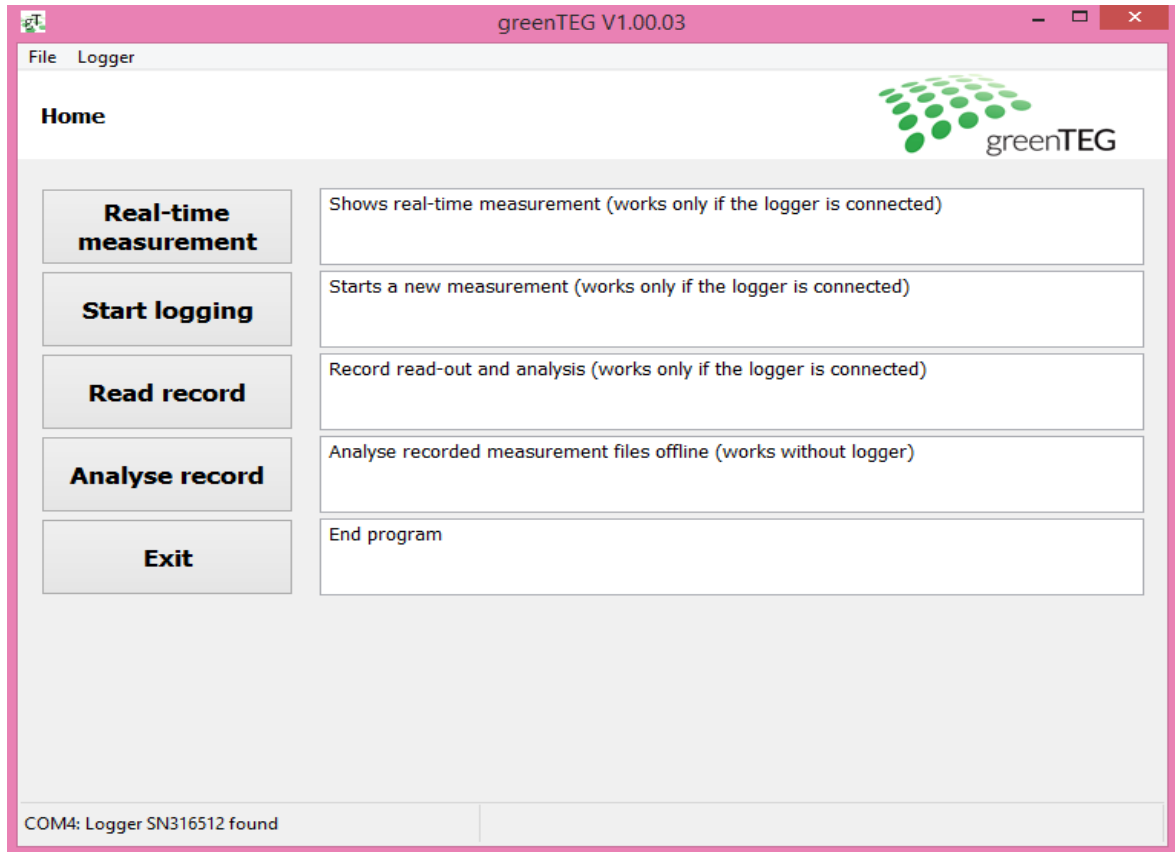

Figure 2: Home screen view with data logger connected to your laptop.
The gSKIN® U-value software is built upon a home screen with 7 functional buttons (See Figure 2): **5 buttons** in the centre of the home screen.
4. When you open the software the home screen will appear (See Figure 2). Under "File" > "Language" you can change the language settings from English to German or vice versa.